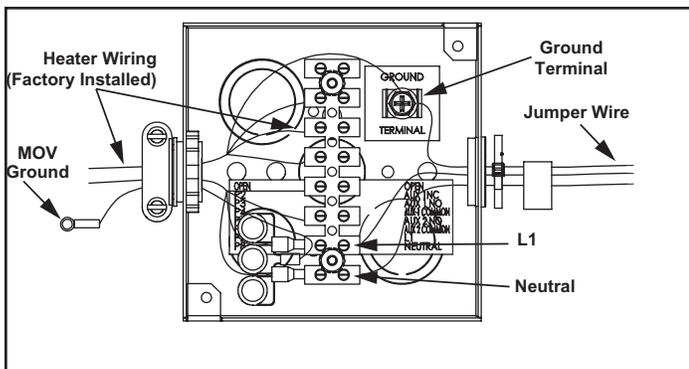

Figure 56. Electrical Wiring - Junction Box
The 120-VAC hot wire from the power supply must connect to the black jumper wire or the "L1" terminal block location in the junction box and the 120-VAC neutral wire must connect to the white jumper wire or the "Neutral" terminal block location in the junction box for correct polarity. See *Figure 56* (page 41).
3. Connect the 120-VAC hot wire from the power supply to the black jumper wire or the terminal block location marked "L1" inside of the junction box located on top of the water heater. If the black jumper wire is used, make the connection inside of the junction box with a properly-sized wire nut. Wrap electrical tape around the wire nut and wire end. See junction box *Figure 56* and the wiring diagram *Figure 67* (page 70).
4. Connect the 120-VAC neutral wire from the power supply to the white jumper wire or the terminal block location marked "Neutral" inside of the junction box located on top of the water heater. If the white jumper wire is used, make the connection inside of the junction box with a properly sized wire nut and wrap electrical tape around the wire nut and wire end. See junction box *Figure 56* and wiring diagram *Figure 67* (page 70).
5. Connect the ground wire from the power supply to the grounding lug inside the junction box. See the junction box in *Figure 56* and the wiring diagram *Figure 67* (page 70).